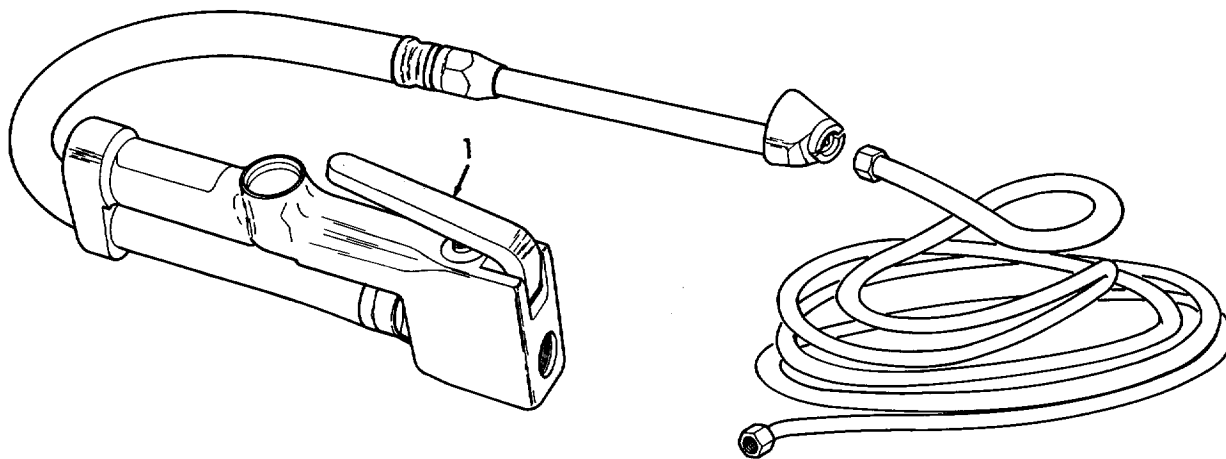

Figure 3-47. Inflator Gage, Removal.
- a. *Removal.* Disconnect inflator gage (1, Figure 3-47).